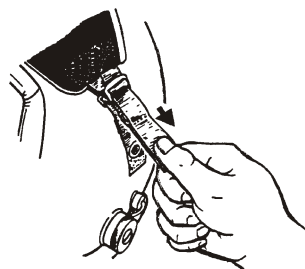

Figure 3-25. Replacment of Outer Lightweight Visor
4. Referring to Figure 3-25, install the new visor by fastening the visor snap to the inner visor snap *from front to back*. Repeat for the other side.